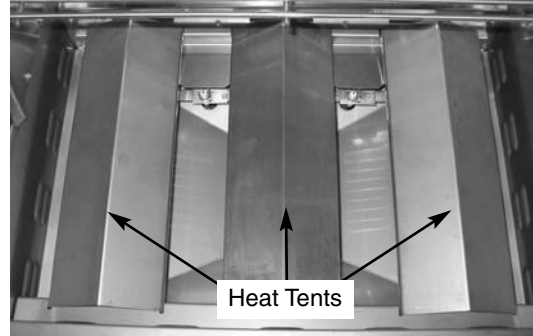

Fig 1
1. Remove cooking grates and heat tents. (See Fig. 1).
26. Reinstall the heat tents (Fig. 1).